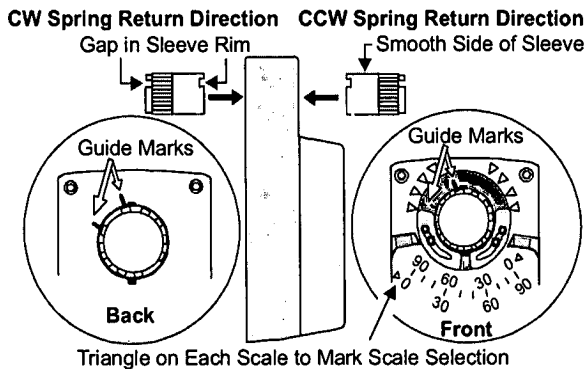

Figure 2: Location of Guide Marks
3. Insert the sleeve into the back of the actuator with the smooth half of the sleeve inserted first. Make sure the gap in the sleeve rim aligns with the two guide marks on the back of the actuator shown in Figure 2.